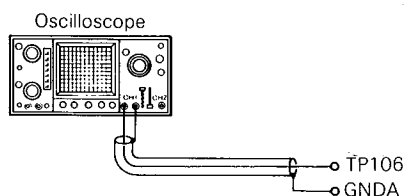

Fig. 23
- (1) Disconnect jumper wire W-5 on main P. C. board.
- (2) Short circuit TP401 and GND on main P. C. board.
- (3) Switch the power switch on and slide the disc tray out by pressing the open/close button.
- (4) Insert the Philips test disc # 5 and place the unit in test mode 4. (See chart number 3.)
- (5) Connect the oscilloscope (DC input) to TP106 and GND. (Fig. 23)
- (6) Adjust VR103 for zero volts DC $\pm 5\text{mV}$.
- (7) Reconnect jumper W-5.